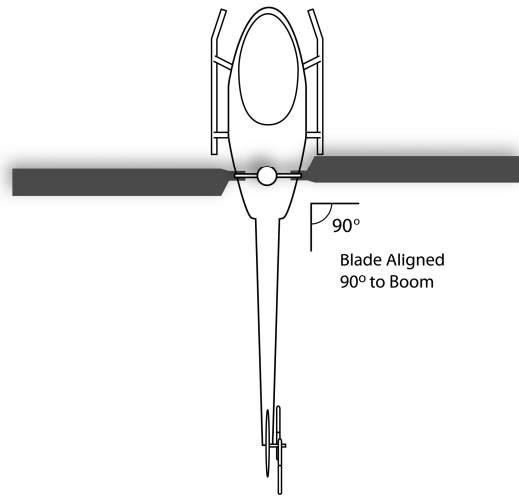

Figure 12.3 – Cyclic Elevator (Pitch) Phasing
- 7) Next align a blade at 90 degrees to the fuselage, pointing over the right side of the helicopter as in Figure 12.3 below: